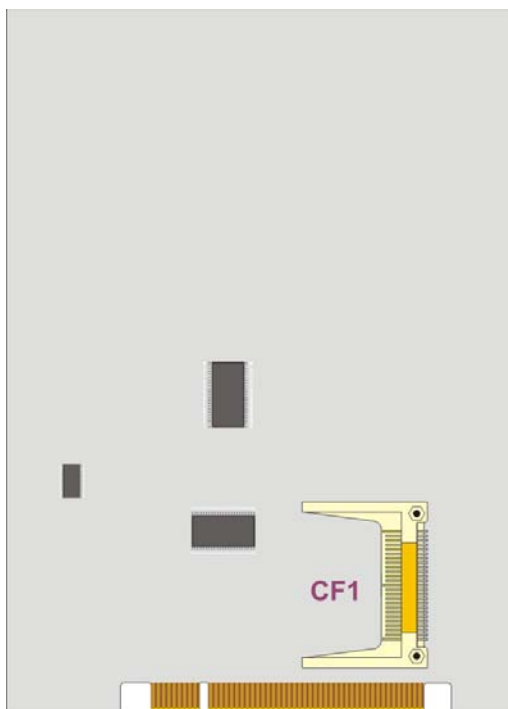

Figure 3-4: Compact Flash Connector Location (Solder Side)
- CN Location:** See Figure 3-4